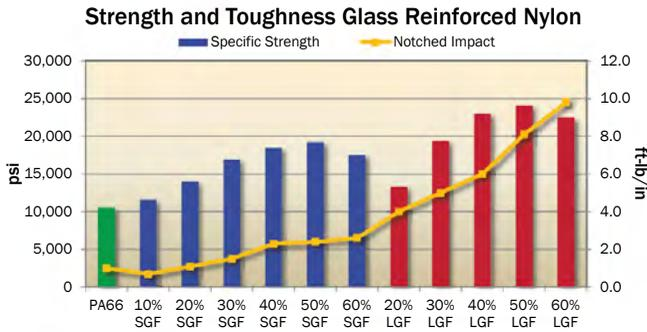

Figure 3. Source: PlastiComp
**Figures 3 and 4** highlight the contributions glass and carbon fiber respectively make to the strength and toughness of nylon 6/6 polymer.
At glass fiber loadings above 50% an interesting effect is observed in **figure 3**: strength performance begins to decline instead of continuing to increase. This results from a saturation of the ductile polymer with reinforcement that hinders efficient energy transfer.
In **figures 3 and 4**, the yellow lines indicate notched impact resistance. They show an incremental and stepped rise in composite durability as fiber content and length increases. Toughness up to 4X unmodified nylon is possible with carbon fiber reinforcement and an outstanding 10X with glass fiber reinforcement.